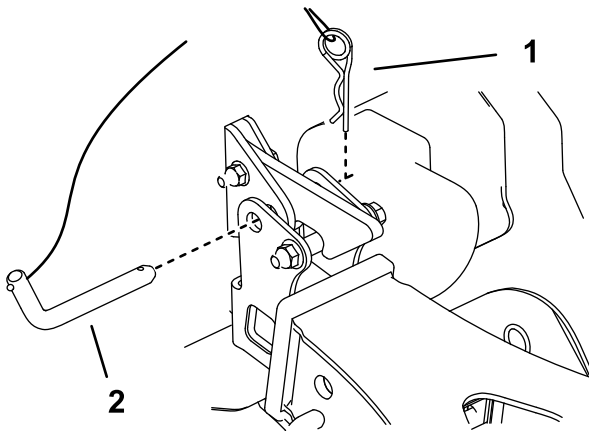

Figure 17
5. Remove the hitch pin and hairpin cotter securing the blower assembly to the hitch receiver (Figure 17).